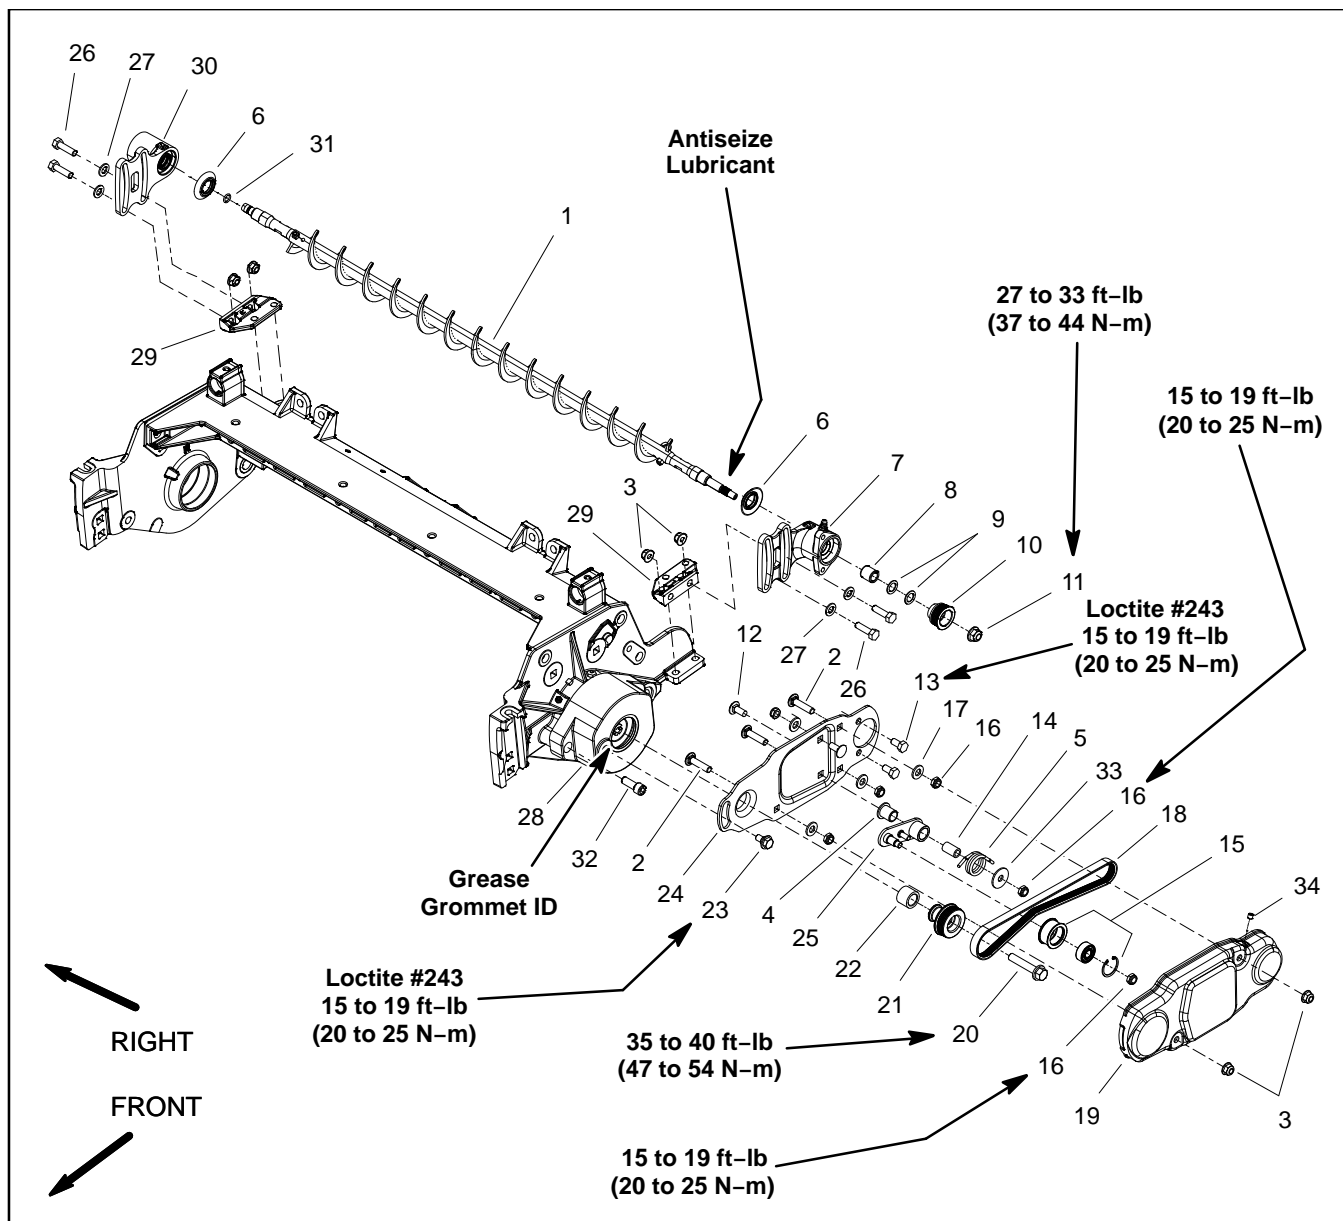

Figure 54
NOTE: Drive components for the rear roller brush are located on the opposite side of the cutting unit from the cutting reel hydraulic motor. Figure 54 shows components used when the brush drive is on the left side of the cutting unit.
Disassembly (Fig. 54)
4. Disassemble roller brush components as necessary using Figures 54 as a guide.
Assembly (Fig. 54)
4. Assemble roller brush components using Figure 54 as a guide.
B. Apply Loctite #243 (or equivalent) to threads of cap screws (item 13) that secure brush plate to driven bearing housing assembly. Torque cap screws from **15 to 19 ft-lb (20 to 25 N-m)**.
C. Check that brush plate is parallel to cutting unit side plate. If necessary, change position of mounting bracket (item 29) to allow brush plate to be parallel to side plate.
D. Apply Loctite #243 (or equivalent) to threads of flange head screw (item 20) that secures drive pulley to drive shaft. Torque flange head screw from **35 to 40 ft-lb (47 to 54 N-m)**.
E. Apply antiseize lubricant to splines of roller brush shaft before sliding hardened washer(s) (item 9) and driven pulley (item 10) onto shaft. Torque flange nut (item 11) that secures driven pulley to roller brush shaft from **15 to 19 ft-lb (20 to 25 N-m)**.